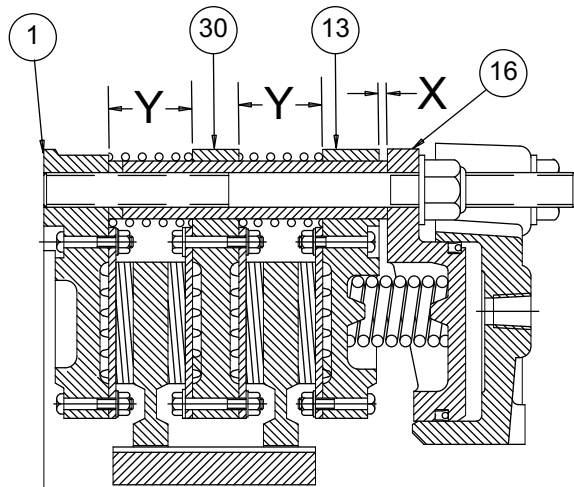

Figure 8 : 236WCSEP - "X" & "Y" gap locations for dual disc
Measure the "Y" gap between the pressure plate (13) and the reaction plate (30), the "Y" gap between the reaction plate (30) and the mounting flange (1), and the "Z" gap between the reaction plates (30) as shown in Figures 8, 9 and 10.